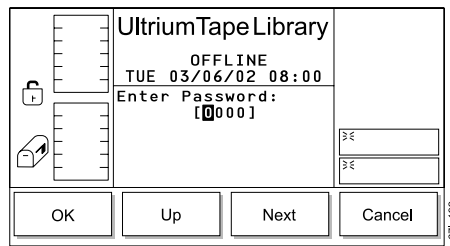

Figure 243. Enter Password Dialog
4. Press the button below the **Secure** softkey. The Enter Password Dialog displays (see Figure 243).